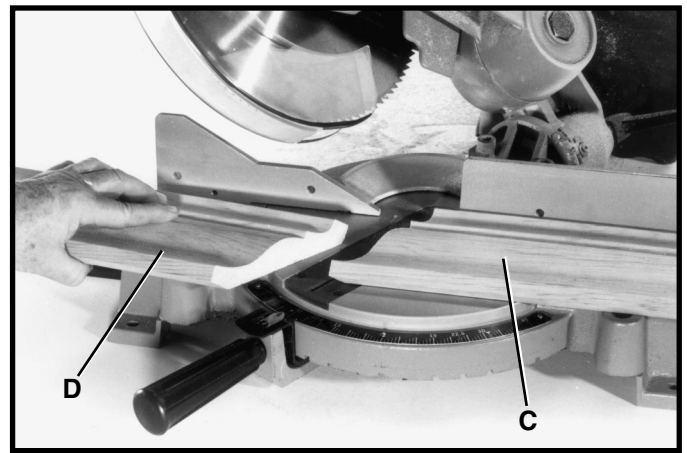

Fig. 38
5. Place the crown moulding on the table with the **WALL EDGE** of the crown moulding against the fence and make the cut. Again, the piece of crown moulding used for the outside corner will always be on the right side of the blade, as shown at (C) Fig. 38. The piece of crown moulding used for the inside corner will always be on the left side of the blade, as shown at (D) Fig. 38.